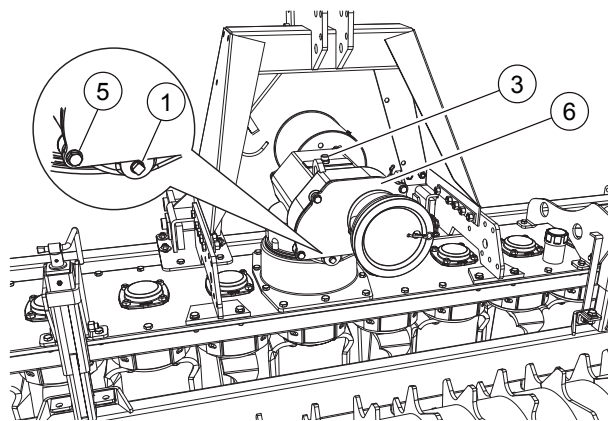

FIG. 39
- Loosen screws (5, "Fig. 39"). Remove the cap (6).
- Fit back the cap (6). Tighten bolts and nuts.
To check the oil level in the gearbox loosen the filler cap with dipstick (3, "Fig. 39"). Check the level with the dipstick. If necessary fill with oil up to the right level.